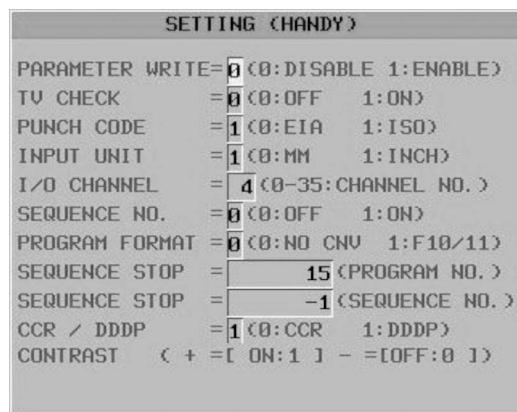

Figure 7-2 SETTING (HANDY)
2. Adjust the first field in the SETTING (HANDY) dialog, Parameter Write Enable (PWE) to 1, scroll down to input unit system, and change as desired (Figure 7-2). When changes are completed, turn OFF PWE. The controller must be restarted to take effect.